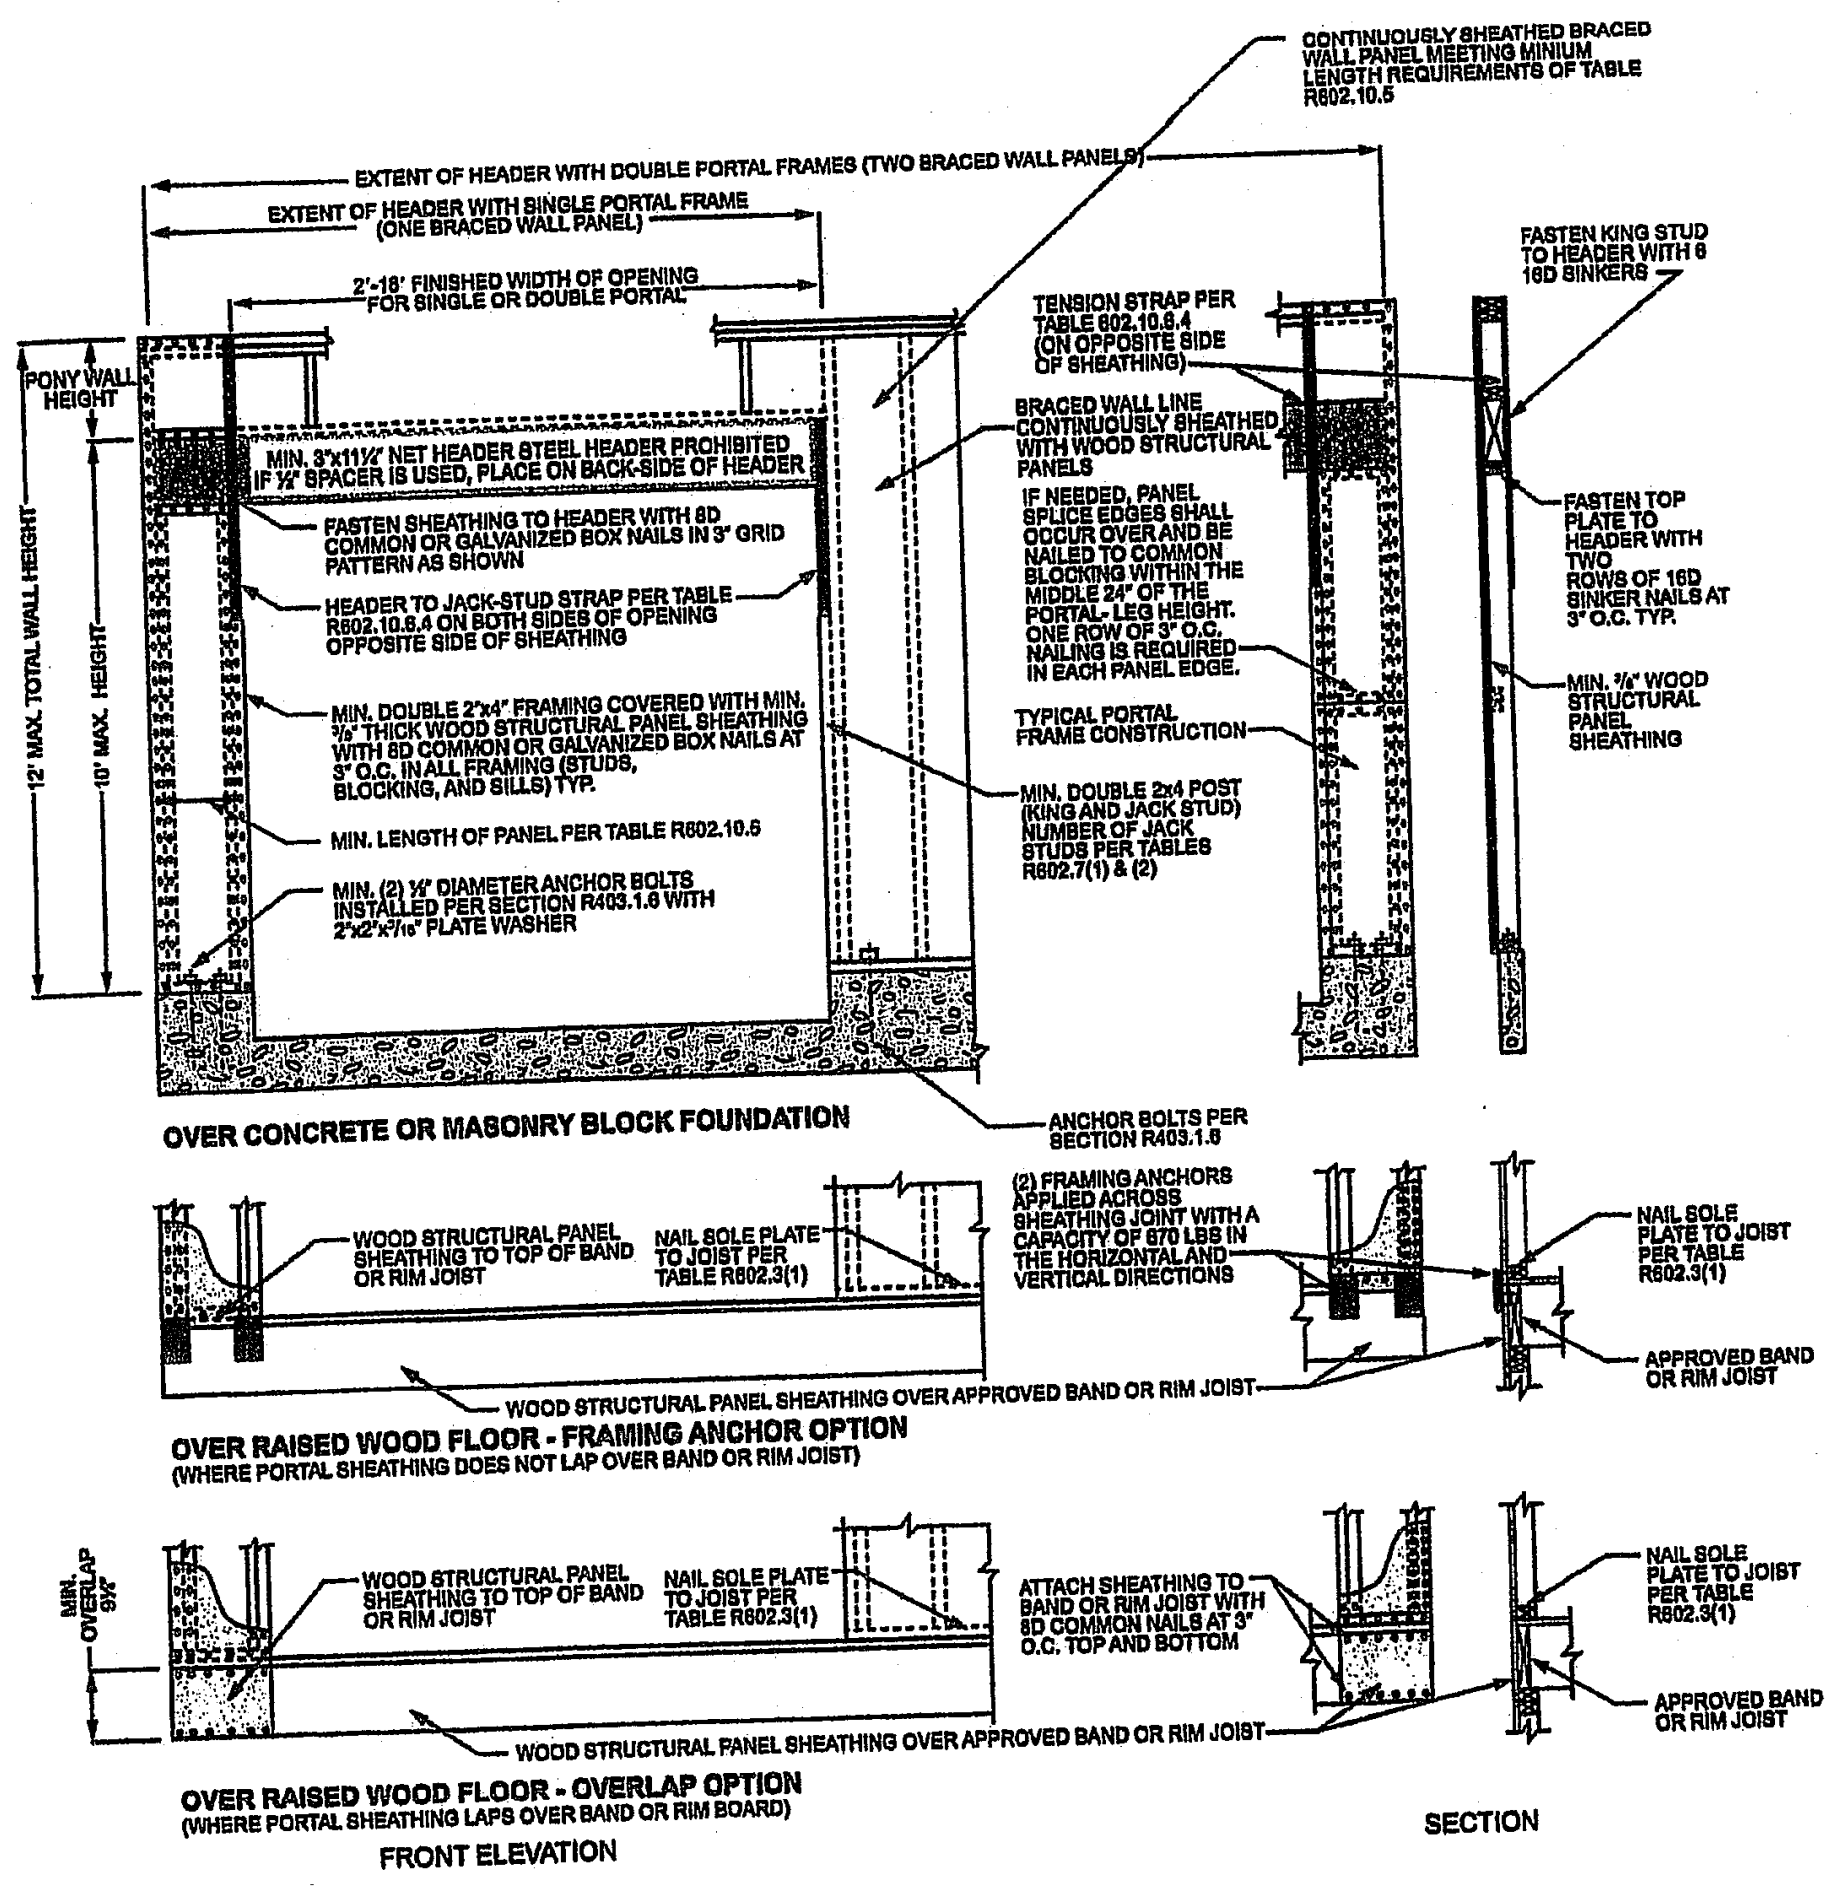

FIGURE R602.10.6.4 METHOD CS-PF—CONTINUOUSLY SHEATHED PORTAL FRAME PANEL CONSTRUCTION
c. Maximum header height for PFF is 10 feet in accordance with Figure R602.10.6.2, but wall height shall be permitted to be increased to 12 feet with pony wall.
d. Maximum header height for PFG is 10 feet in accordance with Figure R602.10.6.3, but wall height shall be permitted to be increased to 12 feet with pony wall.
e. Maximum header height for CS-PF is 10 feet in accordance with Figure R602.10.6.4, but wall height shall be permitted to be increased to 12 feet with pony wall.